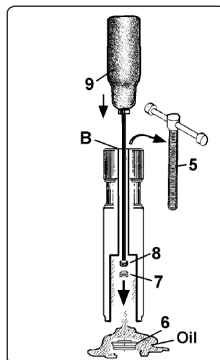

fig.4
- 5.2.3. Push a narrow screw driver (fig.4.9), or a rod of appropriate diameter, down the small opening in head of ram (fig.4.B), in order to push components (fig.4.6, 7, and 8) plus the oil, out of the main cylinder.